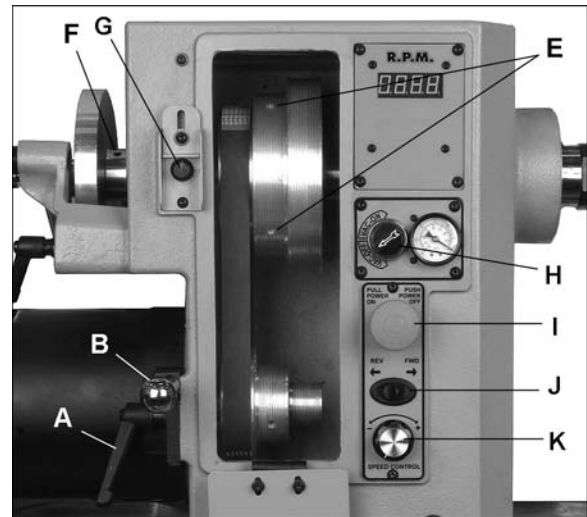

Figure 33
- Push spindle lock button (see G, Figure 33), and rotate spindle slightly until button goes entirely into recess. Slide plate down over button.
The motor and spindle sheaves are aligned with each other at the factory, but if any service is performed that affects their alignment it is very important that they be realigned. To realign them, loosen the two set screws on the spindle sheave (E, Figure 33) with a hex key, and slide spindle sheave into proper position. Re-tighten set screws. When sheaves and belt are properly aligned, there should be no unusual pulsing sounds or noise coming from the belt.
See Figure 33.
7. If replacing spindle sheave, loosen two set screws (E, Figure 33), and slide sheave off spindle.
10. Reinstall handwheel and tighten set screws (F, Figure 33).
11. Align new sheave (see section 9.14, "Sheave and Belt Alignment") then tighten two set screws (E, Figure 33) securely on sheave.
See Figures 33 and 34.